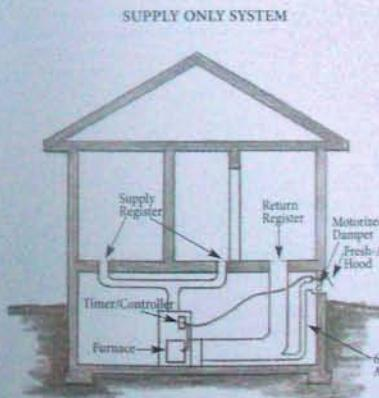

Figure 9
- **Supply-only systems** pull fresh air into the house whenever the air handler is turned on (if integrated with the HVAC system) or when activated by a timer or occupancy sensor (if a separate venting appliance). In colder climates, they are usually integrated with a ducted HVAC system (see figure 9). A supply-only system offers better overall ventila-